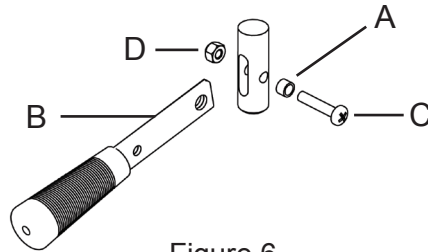

Figure 6
1. Insert the steel bushing (A) in the largest endmost hole in the brake lever assembly (B) and position the assembly in the slot of the handle stub (see Figure 6).
2. Insert the 1/4"-20 x 1-1/4" long pan head machine screw (C) through the stub and lever assembly and secure with the 1/4"-20 locknut (D) using the #2 Phillips head screwdriver and the 7/16" wrench.